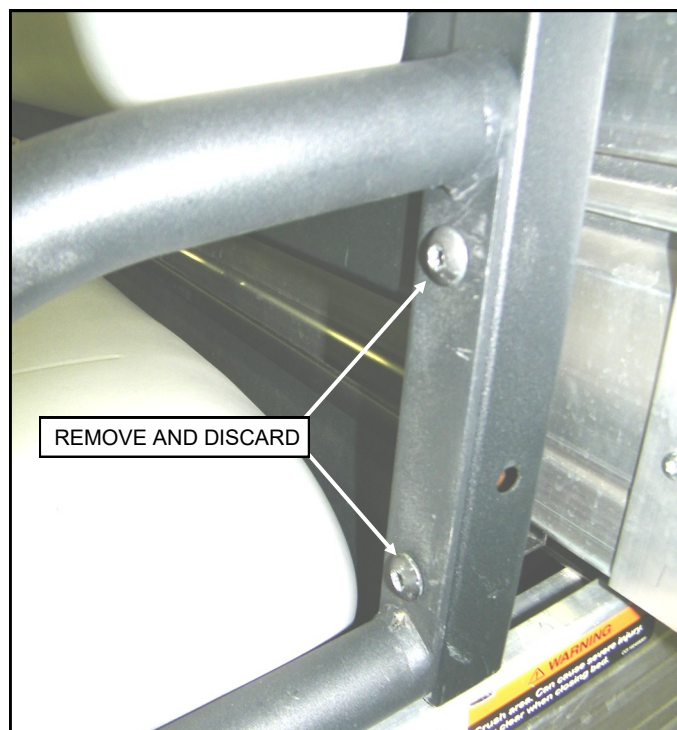

Figure 1.5: Seat Side Bolts
- 1.5 Remove and discard the bolts holding the seat back to the side bolsters (**Figure 1.5**).